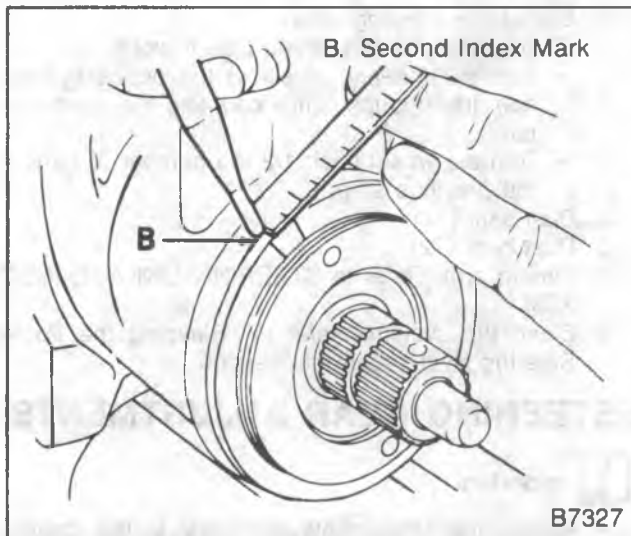

Figure 18—Remarking the Housing
4. Measure back (counterclockwise) 4.7-6.3 mm (3/16-1/4-inch) from the index mark and mark the housing (figure 18).